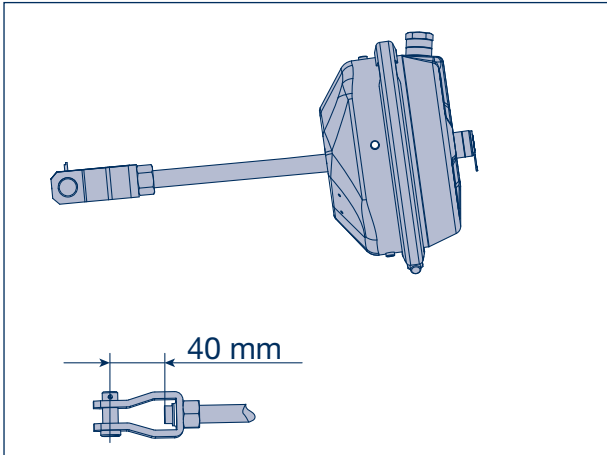

Figure 130
- [2] Adjust the required push-rod length to the bottom of the cylinder (observe free space of at least 40 mm, see Fig. 130). Fasten the clevis with the lock nut by hand.